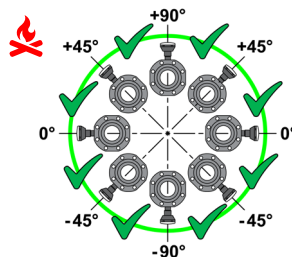

Fig.14
- **Heating applications:** the flow sensor can be oriented with inclinations between +90° and -90° (Fig.14);